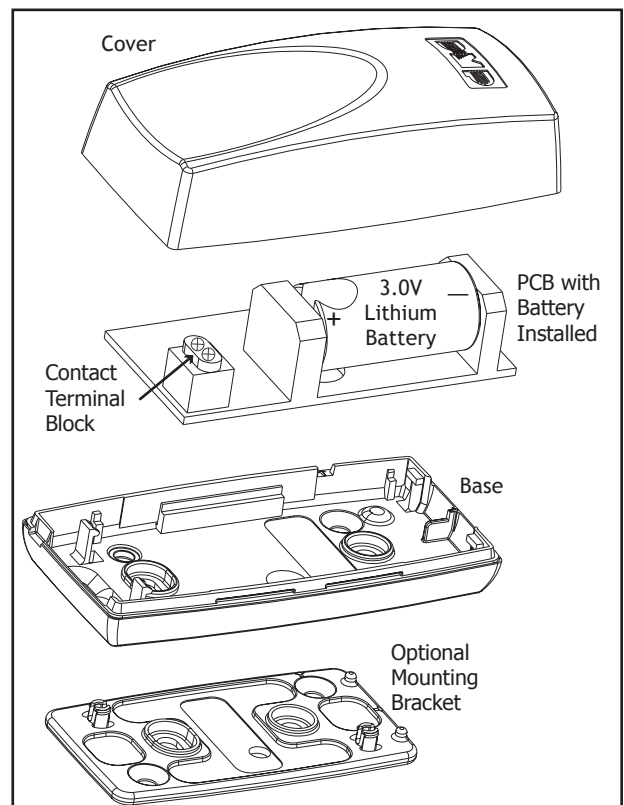

Figure 5: 1102 Transmitter Exploded View
3. Place the 3.0V lithium battery in the holder as shown in Figure 5 and press into place.